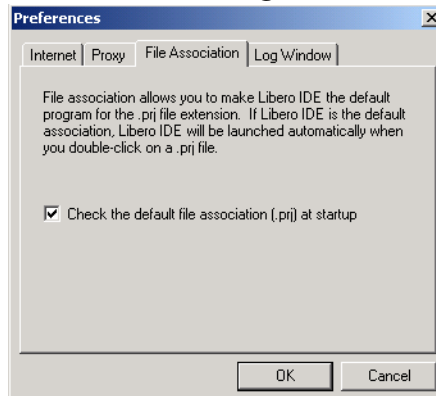

Figure 2-8. File Association Tab
1. **From the File menu, click *Preferences*. Click the File Association tab, as shown in Figure 2-8.**